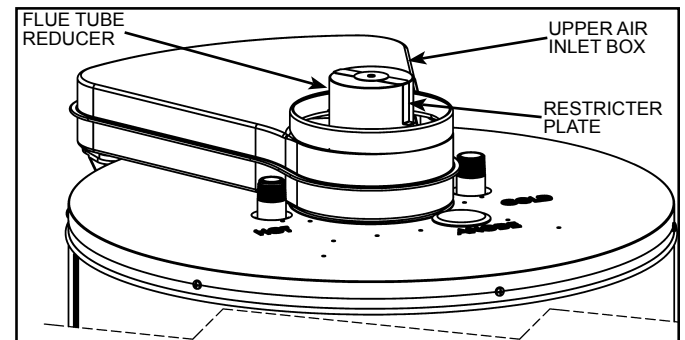
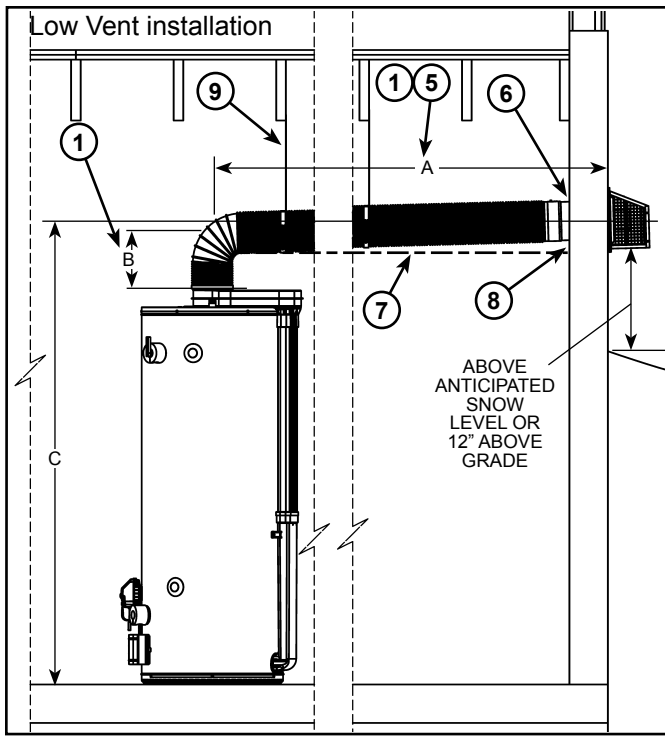
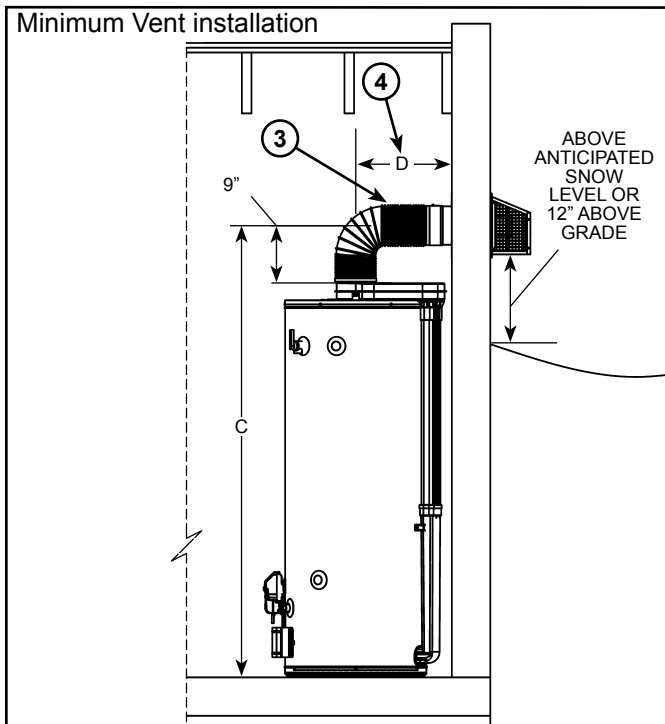
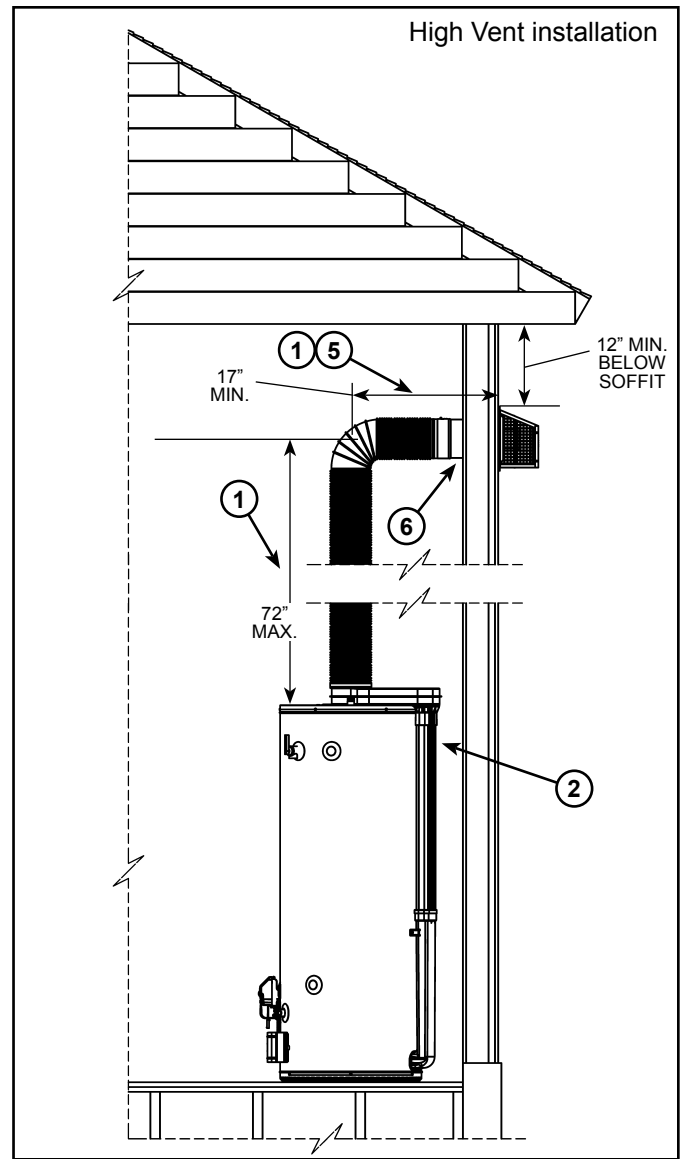

Figure 22
Figure 28
Figure 29
Figure 30
Figure 28 thru Figure 30 show various installation options.
* If the horizontal length of the venting is **less than 30"** the restrictor plate must be installed (see Figure 22, Figure 28 thru Figure 30).
The vent restrictor plate (see Figure 22) is required for short horizontal runs on low vent installations (see Figure 29) and high vent installations (see Figure 30).
For short horizontal vent runs (see Figure 29) place the restrictor plate over the flue tube reducer before connecting the inner corrugated tube to the flue tube reducer. **DO NOT** use the restrictor plate if the horizontal run is greater than 30".
For high vertical runs use the restrictor plate only when the vertical run of the venting above the heater is greater than 48" (see Figure 30).
NOTES: (applies to Figure 28 thru Figure 30)